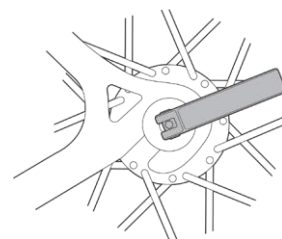
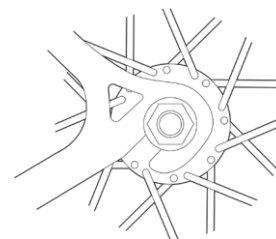

fig. 12a
fig. 13
4. With a cam action mechanism, move the quick-release lever to the OPEN position (fig. 12a). With a through bolt or bolt on mechanism, loosen the fastener(s) with an appropriate wrench, lock lever or integral lever (fig 13); then push the wheel forward far enough to be able to remove the chain from the rear sprocket.
1. With a cam action (Quick Release) system, move the cam lever to the OPEN position (see fig. 12a). The lever should be on the side of the wheel opposite the derailleur and freewheel sprockets.
7. With a through-bolt or bolt-on system (fig. 13), tighten the fasteners to the torque specifications in Appendix D or the hub manufacturer's instructions. Use the correct size wrench; tighten the axle nuts enough so that the wheel stays in place; then use a wrench on each nut simultaneously to tighten the nuts as tight as you can.